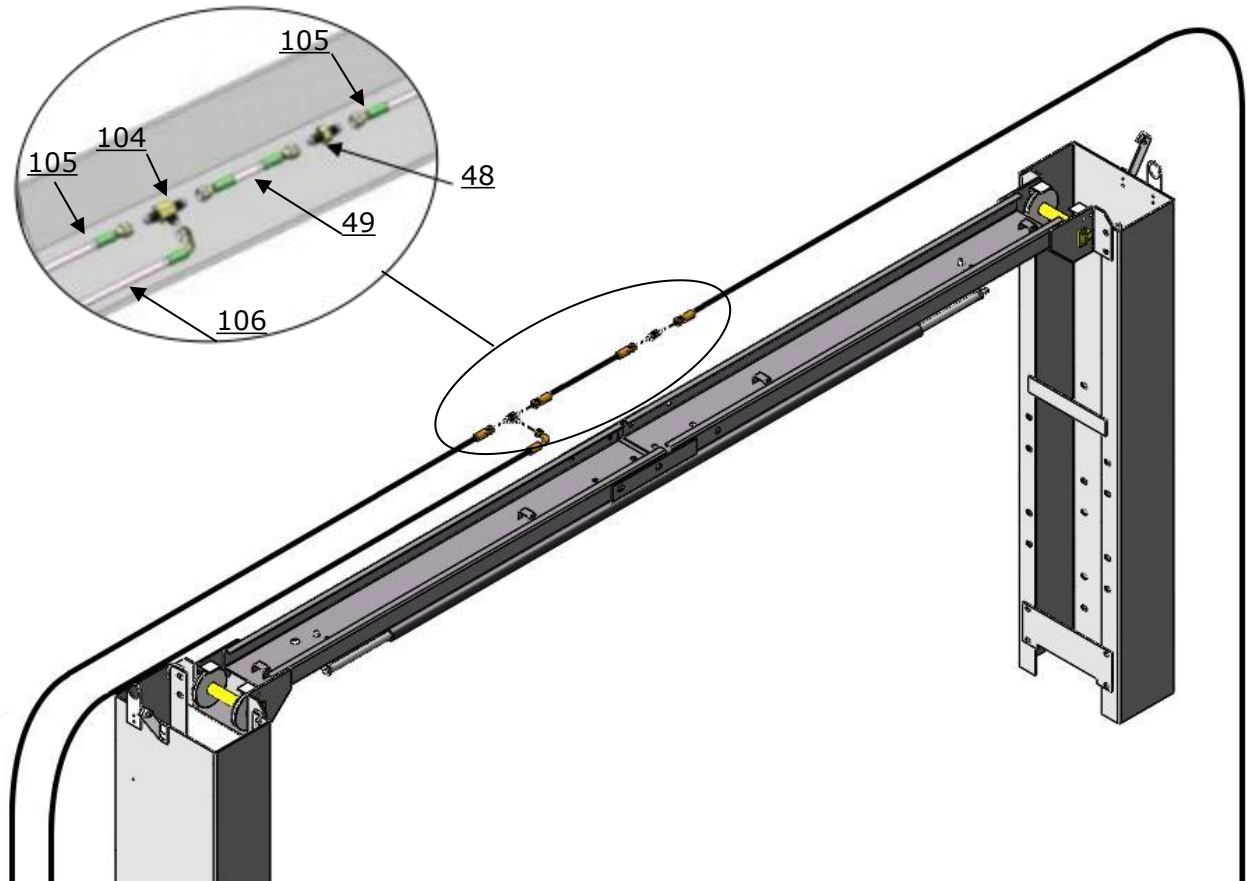

Fig. 38
2. Oil hose installation of medium setting.(Fig.38)